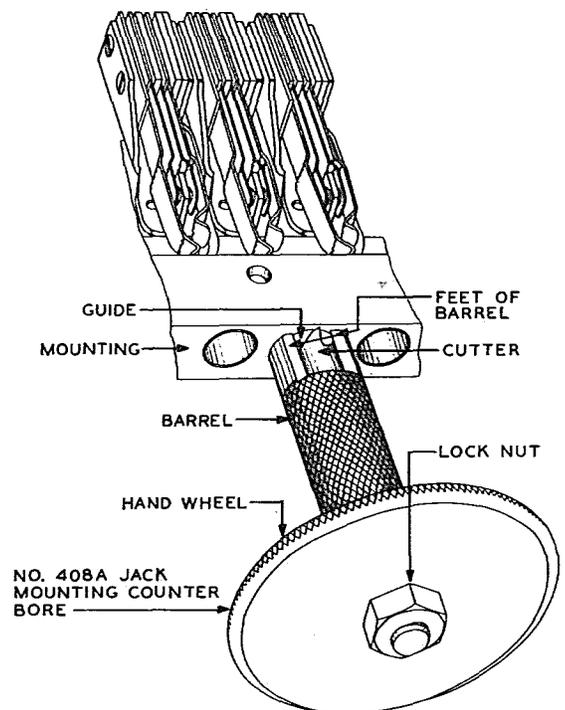

FIG. 5 - METHOD OF COUNTERBORING MOUNTING WITH NO. 408A JACK MOUNTING COUNTERBORE
3.12 Insert the guide of the counterbore into the jack aperture and position the feet of the knurled barrel against the face of the mounting as shown in Fig. 5. Counterbore by turning the handwheel slowly in a clockwise direction until the wheel bears against the knurled barrel. Carefully remove any shavings that may be lying in the jack aperture.